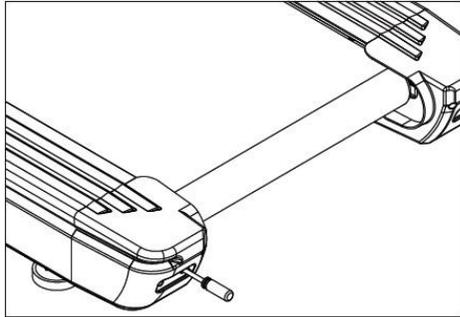

Figure 4.5.1
4.5.1 As shown in Figure 4.5.1, use the screwdriver to remove the left and right side adjustment screw.